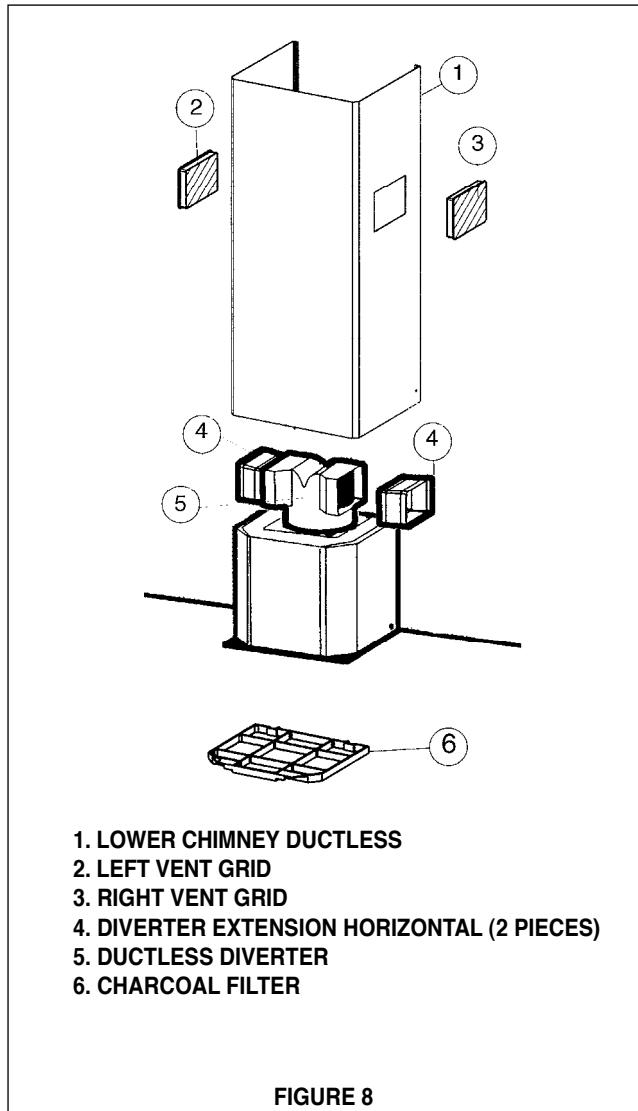

FIGURE 8
Ductless installations require a **Ductless Conversion Kit** whose components are pictured in **FIGURE 8**. Do not use the **DAMPER (H in FIGURE 1)** for ductless installations. The **LOWER CHIMNEY COVER (B in FIGURE 1)** should be discarded and replaced by a new one with holes (1 in **FIGURE 8**).
1. As indicated in **FIGURE 8**, fit the **DUCTLESS DIVERTER (5)** over the duct outlet. Fit the 2 **DIVERTER EXTENSION HORIZONTAL** pieces (4) on either side of the **DUCTLESS DIVERTER**.